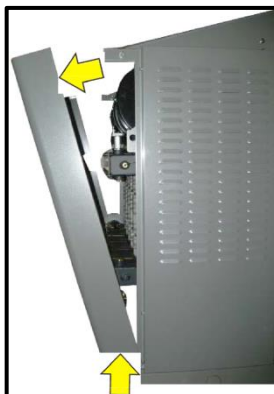

Figure 8-6: Remove Panels (Step 3) Figure 8-7: Remove Flue Assembly (Step 4)
3. Remove screws from top of unit holding the front, rear and side panels in place (Figure 8-5). Remove the panels by tilting away from unit, then lifting up and out (Figure 8-6). Note, the front and rear panels must be removed before the side panels can be removed.